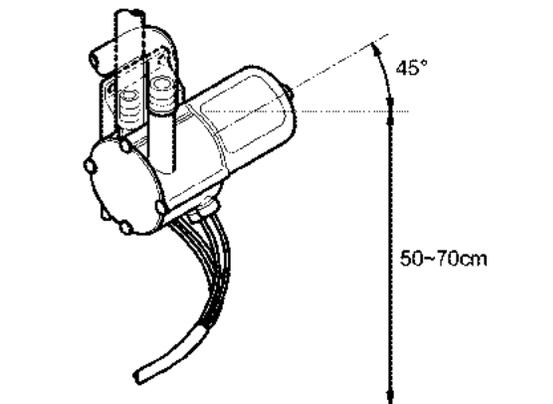

Figure 7-43
- Position at a 45° angle (Figure 7-43) with the nozzle facing up, and 50 to 70 cm (19.7 to 27.6 in.) from the bottom of the boat.